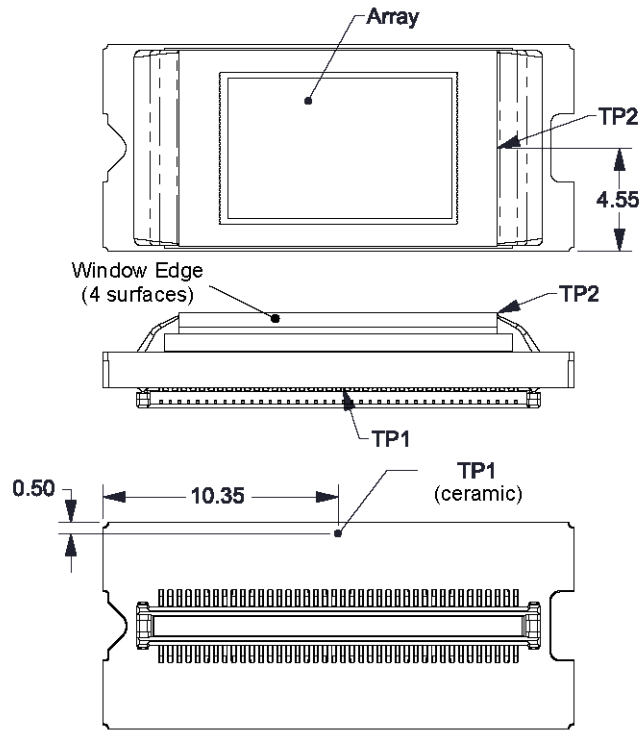
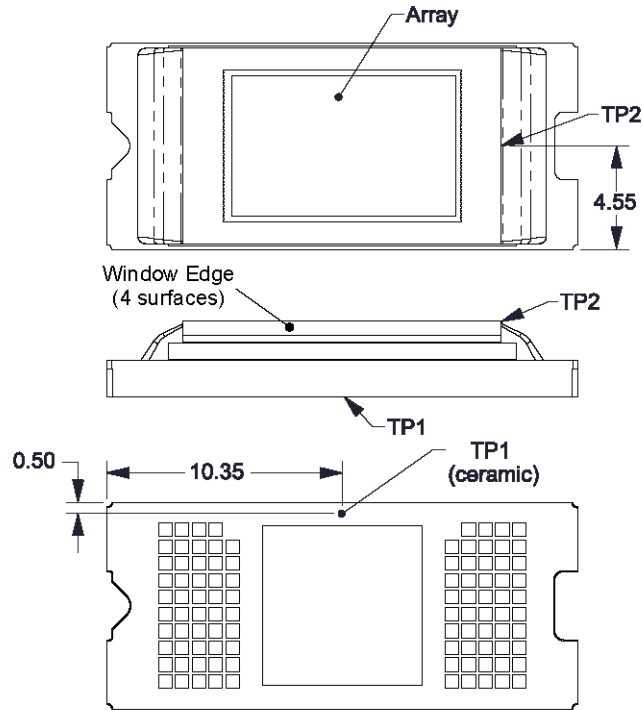

图 8-3. Thermal Test Point Location - FQE Package
图 8-4. Thermal Test Point Location - FQD Package
The DMD is designed to conduct the absorbed and dissipated heat back to the package where it can be removed by an appropriate thermal management system. The thermal management system must be capable of maintaining the package within the specified operational temperatures at the Thermal test point location, see 图 8-3. The total heat load on the DMD is typically driven by the incident light absorbed by the active area; although other contributions can include light energy absorbed by the window aperture, electrical power dissipation of the array, and/or parasitic heating.
The temperature of the DMD case can be measured directly. For consistency, a thermal test point location TP1 representing the case temperature is defined as shown in 图 8-3 and 图 8-4.
- Thermal test point location (see 图 8-3 or 图 8-4)